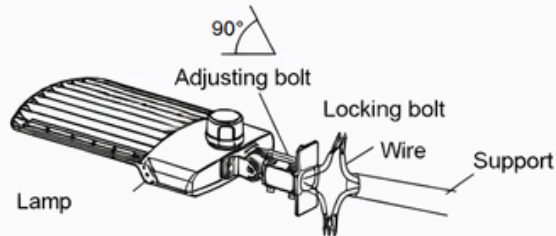

Figure 14
Step 3: Place the bracket into the pole and lock the four bolts. (Figure 14)
Note: Adjustable angle is 0-90° (Figure 14)